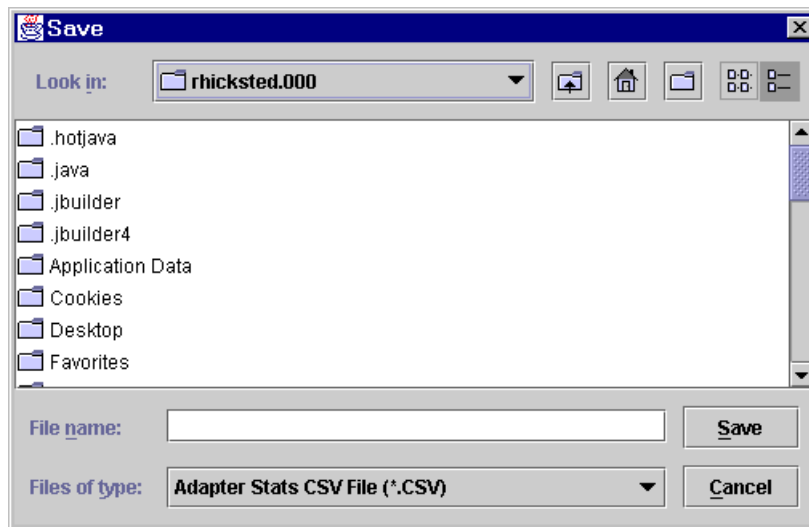

Figure 9-11. Export Adapter Statistics—File Name and Location
2. You are prompted to select a location and a file name (see figure 9-11). After selecting a location from the **Look in** list, type a file name in the **File name** box or select an existing file. Click **Save**.